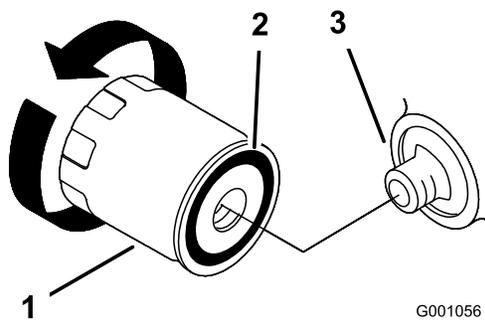

Figure 20
2. Remove the old filter and wipe the filler adapter gasket surface (Figure 20).
3. Apply a thin coat of new oil to the rubber gasket on the replacement filter (Figure 20).
4. Install the replacement oil filter to the filter adapter, turn the oil filter clockwise until the rubber gasket contacts the filter adapter, then tighten the filter an additional 2/3 to 1 turn (Figure 20).